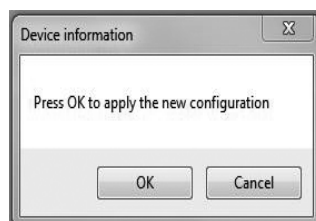

Fig. 3-46
- (4) Click "OK" button after all settings are completed to display the message box (Fig. 3-46).